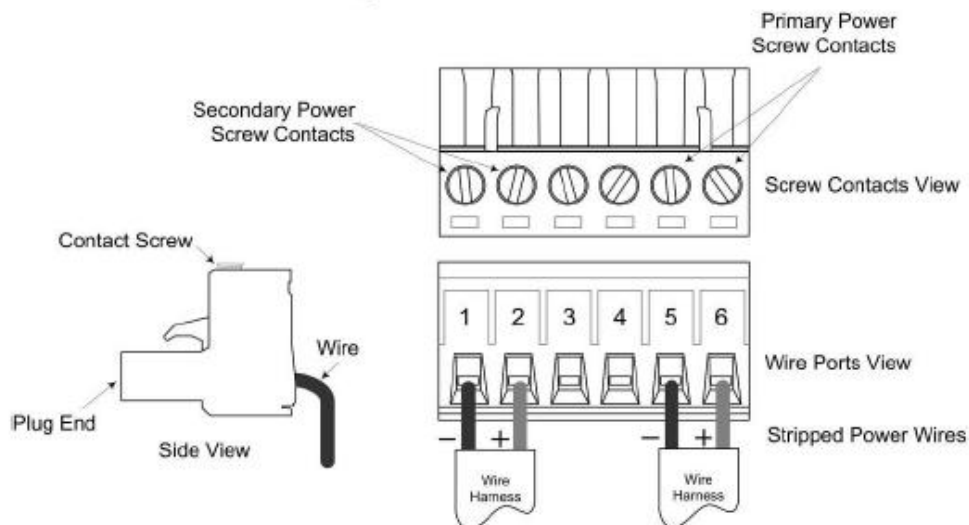

Figure 9: 6-Position Terminal-Block (Primary/Redundant Power Wiring)
3. Insert one stripped power wire into the terminal block plug. Observe polarity. See Figure 9.
4. Secure the wire using a flathead screwdriver by tightening the contact screw. See Figure 9.